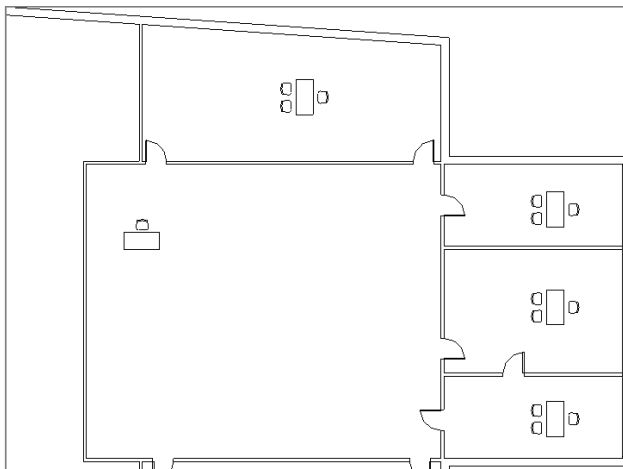

FIGURE 1.35 Create copies of the group with multiple chairs.
10. With the Copy command still active, uncheck the Constrain option, and place a copy of the group in the space at the north side of the layout. Your copied furniture should look like the image in Figure 1.35.